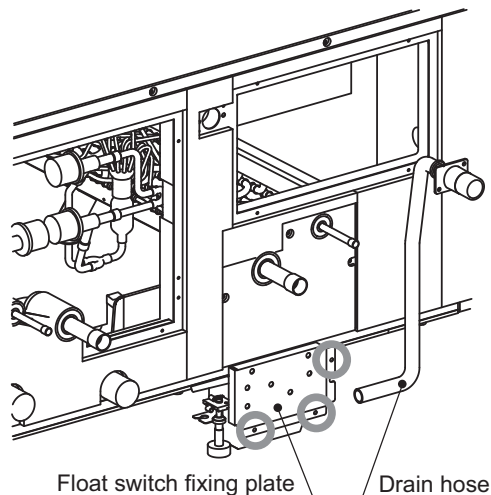

Fig.10
5. To remove the pump and float switch (Fig.10, 11)